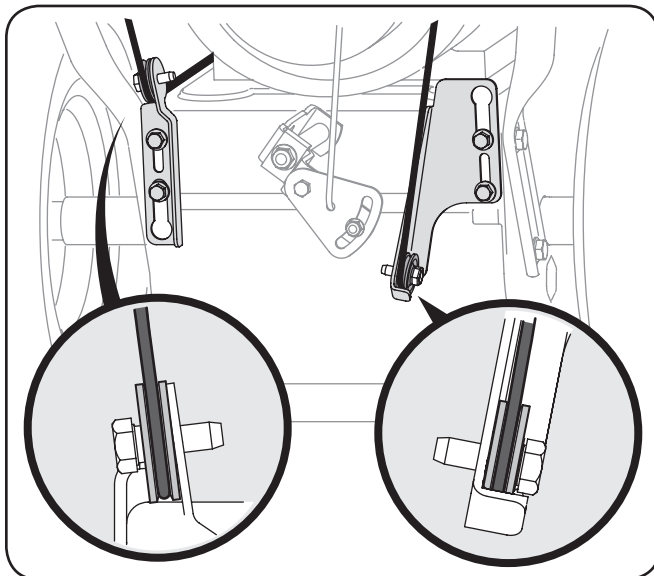
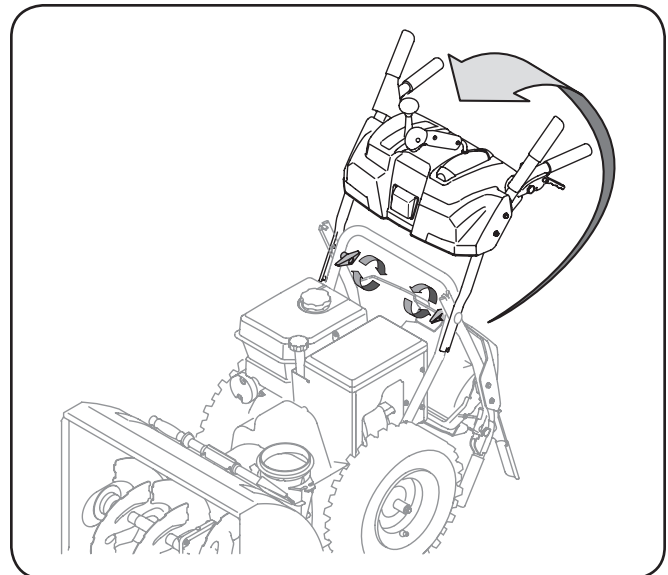

Fig. 3-1
Fig. 3-2
2. Observe the lower rear area of the snow thrower to be sure both cables are aligned with roller guides. See Fig. 3-1. Pull up on the upper handle, align the upper handle with the lower handle. See Fig. 3-2.